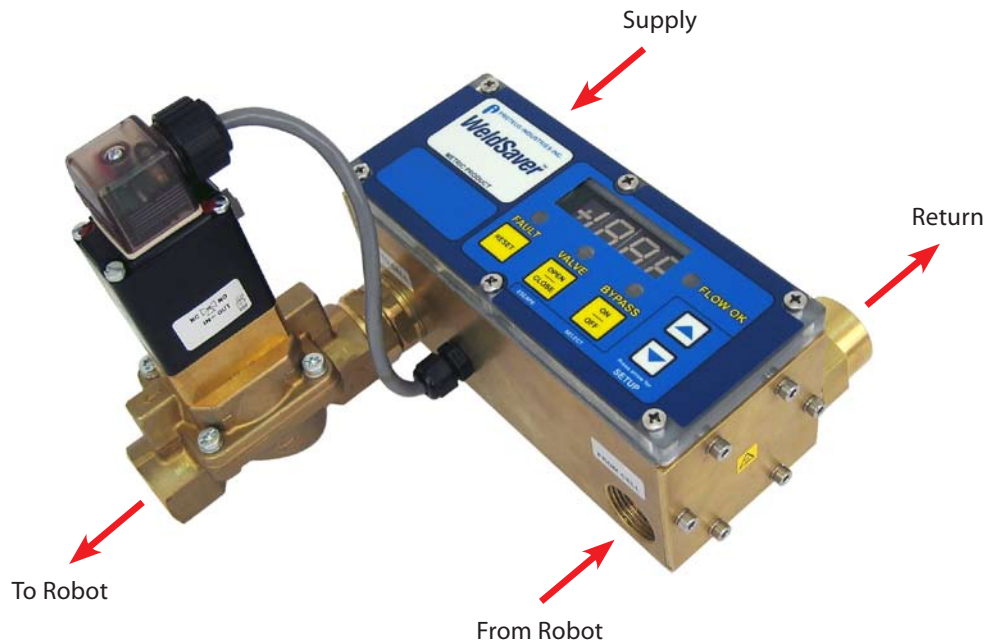

Figure 2: Plumbing connection locations of the WS1G WeldSaver
3. Refer to Figure 2 below to identify the water connection ports.